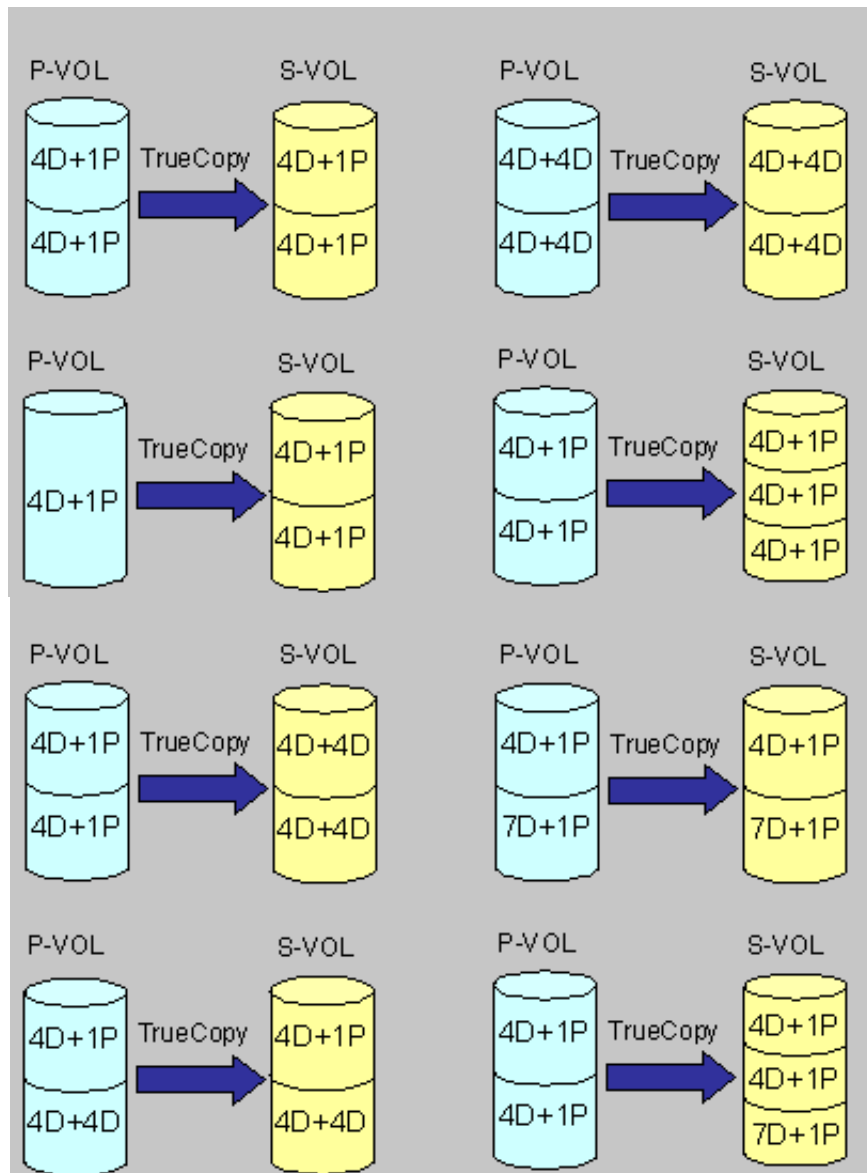

Figure 14-3: Combination of RAID levels
- P-VOLs and S-VOLs made of unified volumes can be assigned to different RAID levels and have a different number of data disks, as shown in Figure 14-3 on page 14-6.